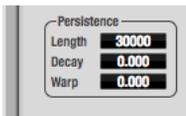

Figure 11-21: The Persistence controls.
The *Persistence* controls (Figure 11-21) affect the appearance of data from when it is first displayed until it disappears from the grid.
*Length* (Figure 11-21) sets the number of recent samples to show on the plot. For example, when Length is set to 10,000, the 10,000 most recent samples are shown.
*Decay* (Figure 11-21 on page 73) determines the brightness or hue of the minimum value. When Decay is zero, the oldest sample is black. When Decay is +1.000, the oldest sample is fully opaque (in Grayscale mode) or red (in Color mode).
*Warp* (Figure 11-21) determines the position of data points after they are first drawn. When warp is zero, data points remain in the same position.